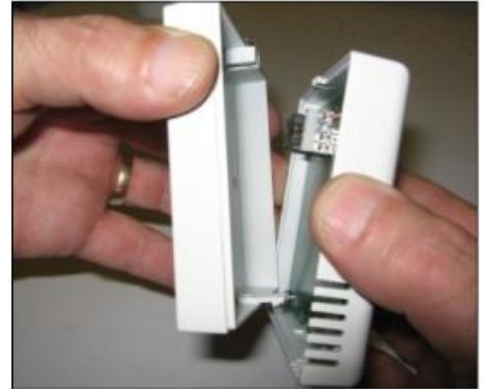

Fig 12
- Step 1** Using a screwdriver undo the screw on the top of the remote-control case and pull the back case away (see Fig 12).